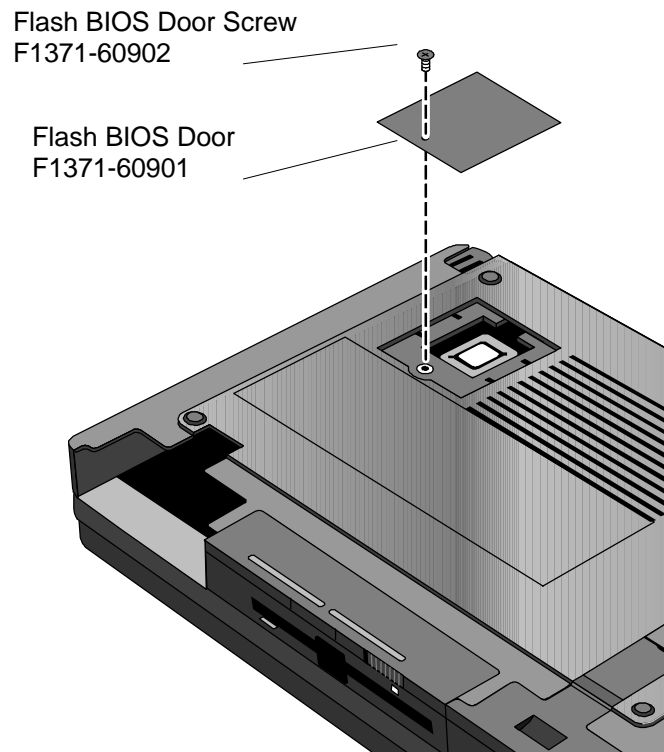

Figure 42 - Flash BIOS Door Removal
- 3a. **For the OmniBook 5700⁸ and 5500**, follow the Logic PCA Board Removal Procedure to gain access to the BIOS IC. Turn the Logic PCA over and proceed with step four (4) below.
- 3b. **For the OmniBook 2000**, remove the Flash BIOS Door as shown in Figure 42.
⁸ At a later date, the OmniBook 5700 will be compatible with the OmniBook 2000's Lower Chassis Case. At that time, removal of the Logic PCA will not be necessary to gain access to the Flash BIOS IC; it will be accessible via the Flash BIOS Door as seen in Figure 42.